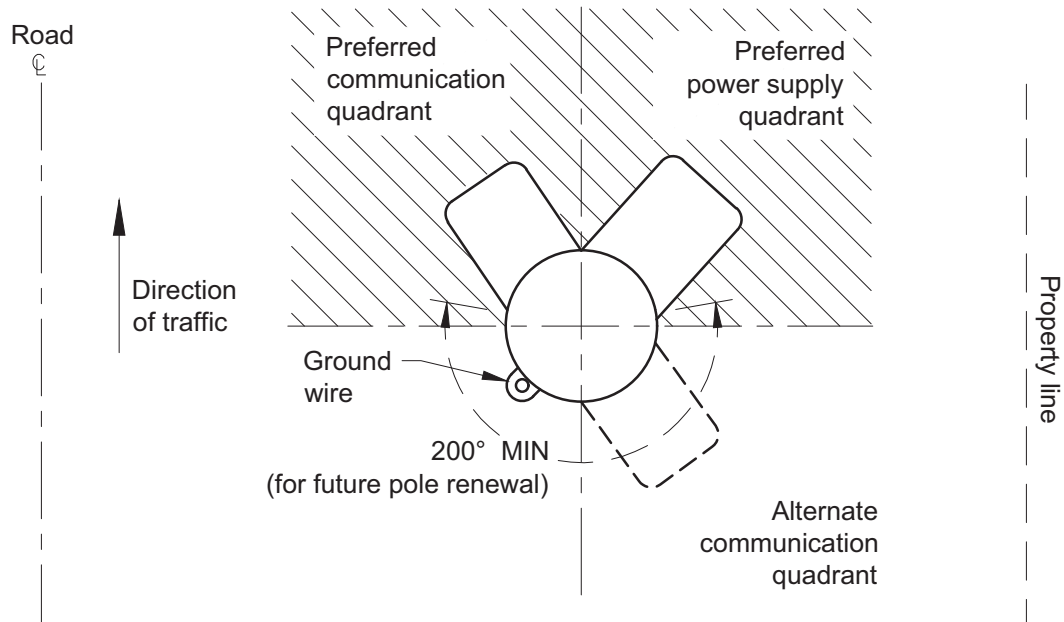
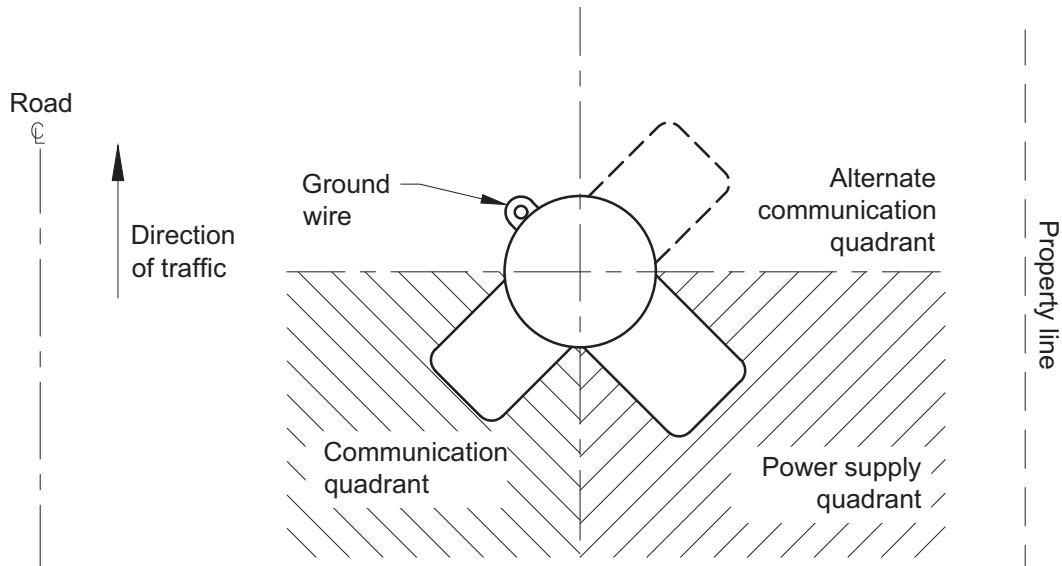
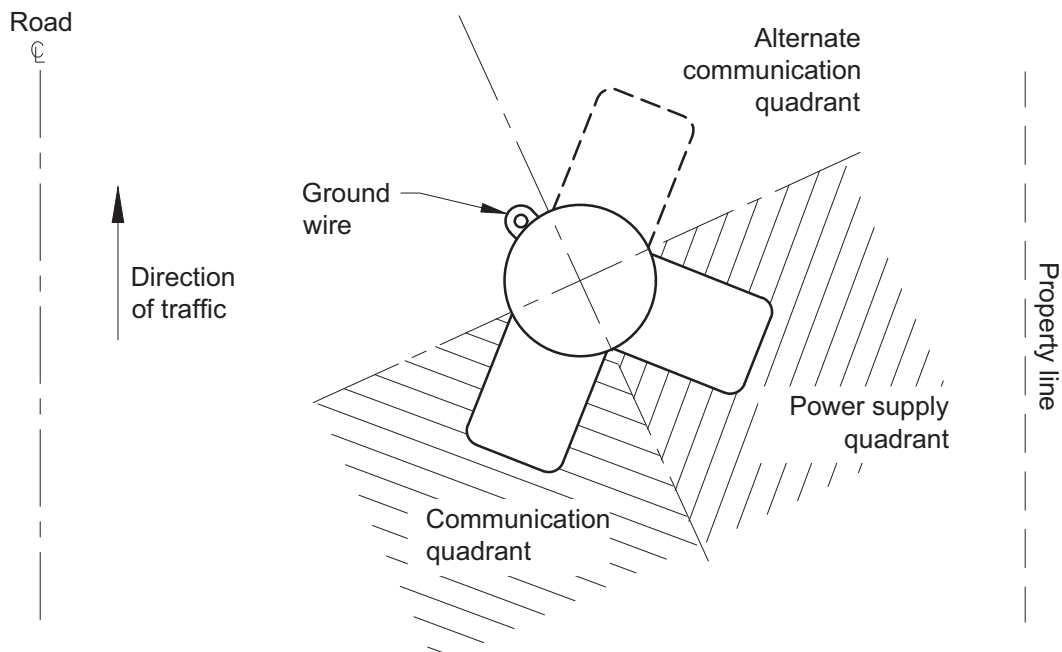

Figure 2 – Preferred installation
Figure 4 – Alternate installation
Figure 5 – Alternate installation rotated
7. Figure 2 shows the preferred ground rod installation.
9. Use the alternate installation shown in Figure 4 where duct access to quadrant locations shown in Figure 2 would require additional infrastructure such as pull boxes, and where there is a low probability of vehicles striking the pole.
10. Use the alternate rotated installation shown in Figure 5 where communication pilaster is not permitted to project past the road side of the pole in Figure 4. Rotate quadrants accordingly.